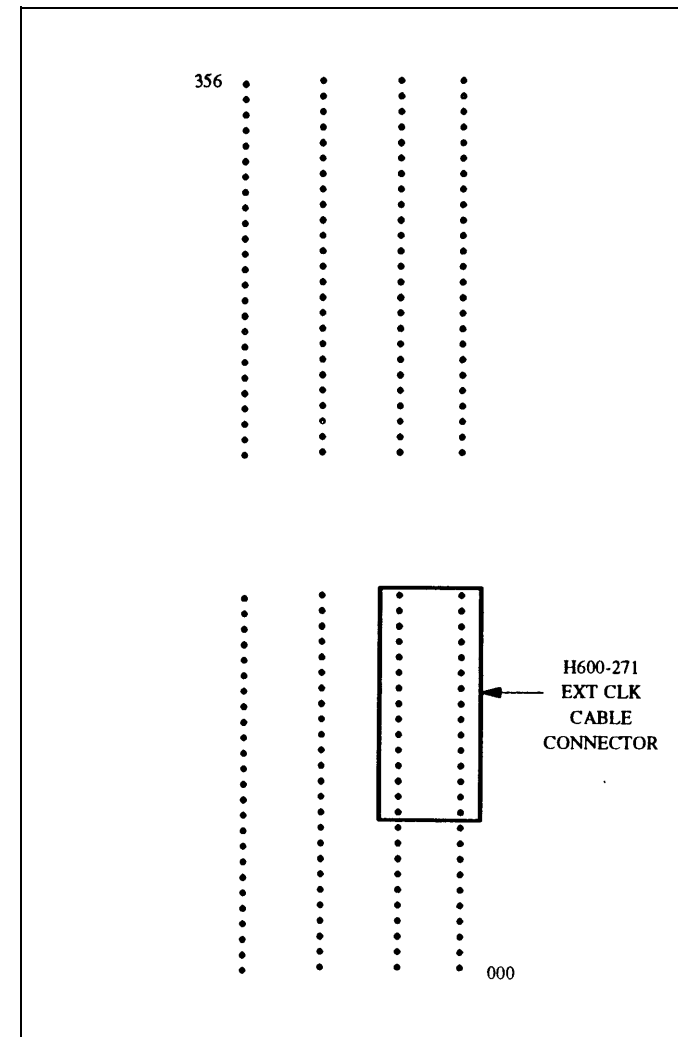

Figure 30-86. H-600-271 Cable Attachment to Backplane
- a. Attach the EXT CLK (AP1) connector on the H-600-271 cable to slot 14 (pins 010 through 024 and 110 through 124) on the backplane in the module control carrier(s). See Figure 30-86 for pin locations. Make sure that the other end of the H-600-271 cable is connected to the external clock (EXT CLK) connector on the connector panel. The external clock connector may not be labeled. It is the connector between LGI and RSVD1 on the connector panel.